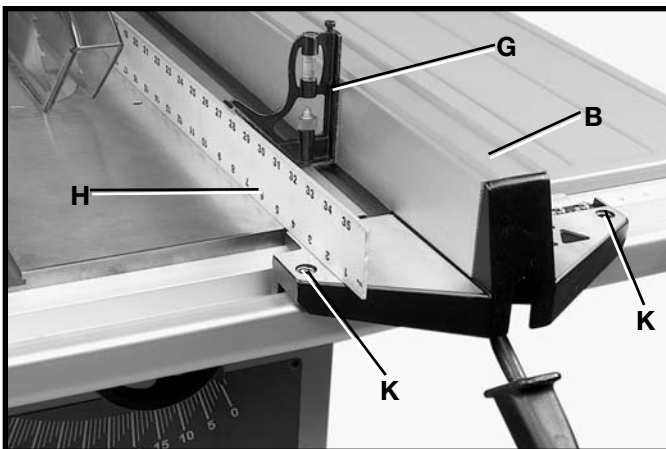

Fig. 47
4. Using a square (G) Fig. 47, and a straight edge (H), check to see if the rip fence (B) is perpendicular to the saw table and that the rip fence body is level with the saw table. If an adjustment is necessary, tighten or loosen either of two screws (K), until the fence is perpendicular and level with the saw table.